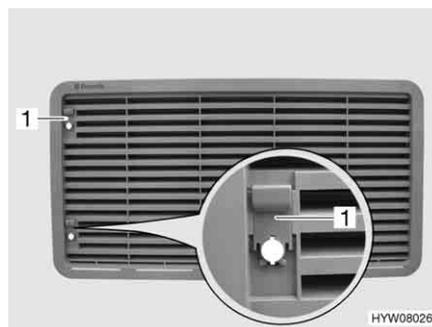

Fig. 162 Refrigerator ventilation grill (with sliding trap)
- Push sliding trap (Fig. 162,1) upward.